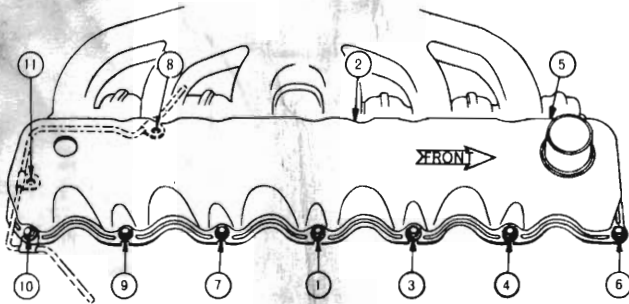

Fig. 9 - Valve cover tightening diagram
(5) Re-install the push rods in the tappet cups in the same order as they were removed. Examine the rocker arm and bolt pivot surfaces for scuffing or scores — replace both if the surfaces are less than 75% of circular contact.
(6) Lubricate the rocker arm contact surfaces, then re-install the pushrod guide plates, valve rocker arms and pivot bolts.
(7) Install the spark plugs, torquing to 30 lbs. ft. then install the valve cover and gasket using Chrysler Parts Gasket Sealer on upper surface of gasket, tightening screws to 40 lbs. in. in order shown in Fig. 9.
(8) Loosen the 4 bolts holding the intake manifold to the exhaust manifold in order to maintain proper mounting face alignment.
(9) Install intake and exhaust manifold and carburettor assembly to cylinder head with the cup side of conical washer of front stud, against manifolds (triangular plates between the manifold separations).
(4) Tighten rocker pivot bolts to 45 lbs. ft.
(5) Apply Chrysler Parts Gasket Sealer (red) to the new cylinder head valve cover gasket upper surface and place in position on head.
(6) Re-install the valve cover and the vacuum advance tube brackets. Tighten the screws evenly, in the order shown in Fig. 9, to 40 lbs. in. torque.
(7) Re-install the crankcase vent valve to the cover grommet.
(8) Start engine and check the valve operations.